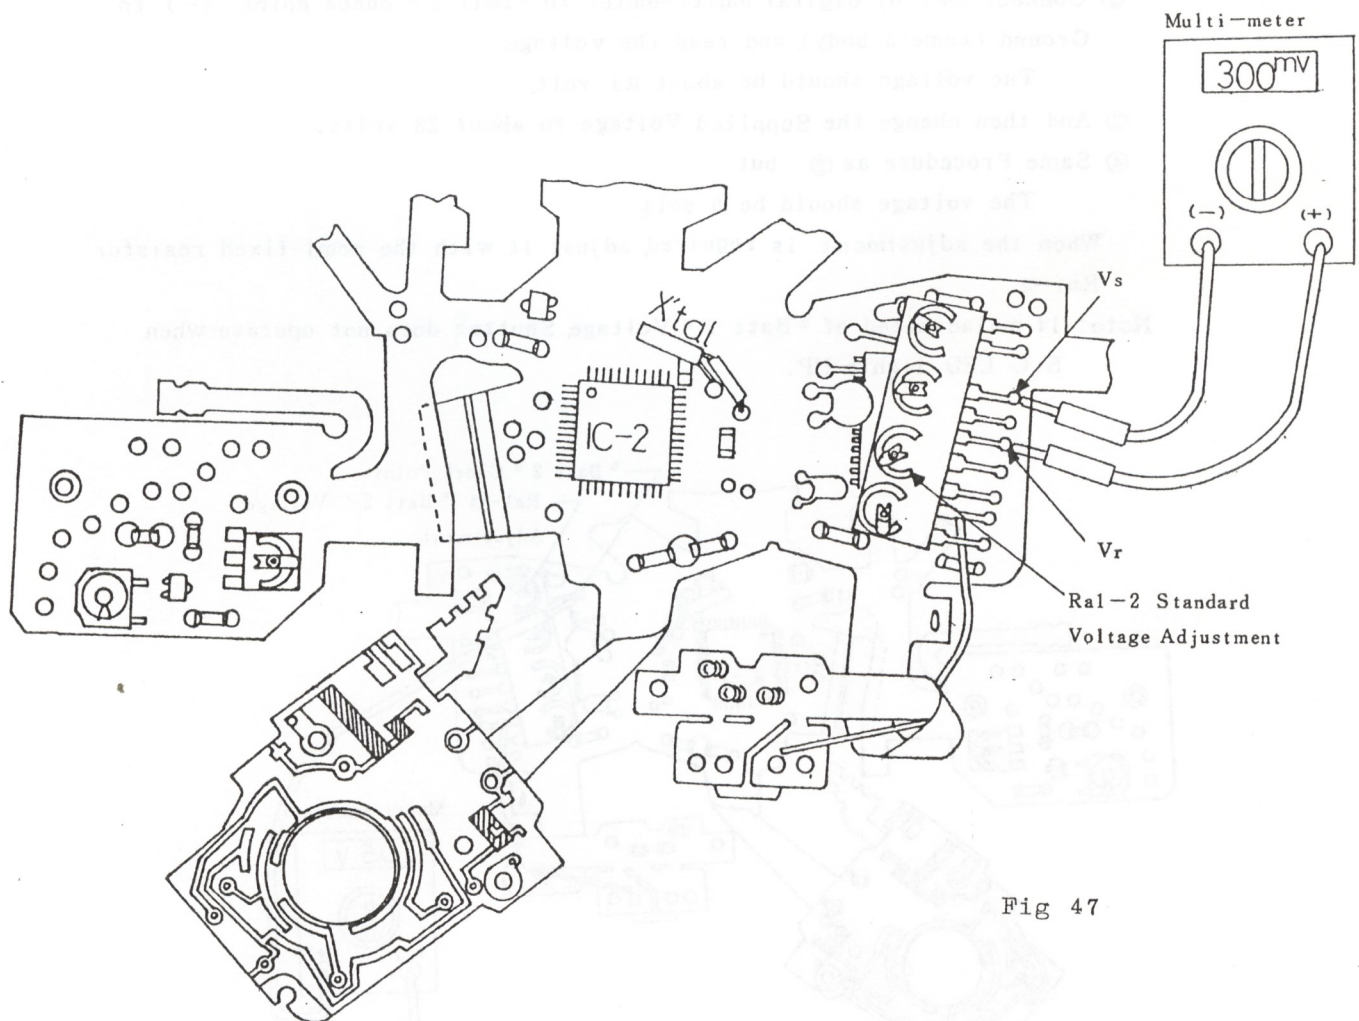

Fig 47
① Supply 5 volts from Regulated D. C. Power Supply to the camera.
② Connect (+) of digital multi-meter to V_r , (-) of digital multi-meter to V_s , and then read the voltage. (see Fig 47)